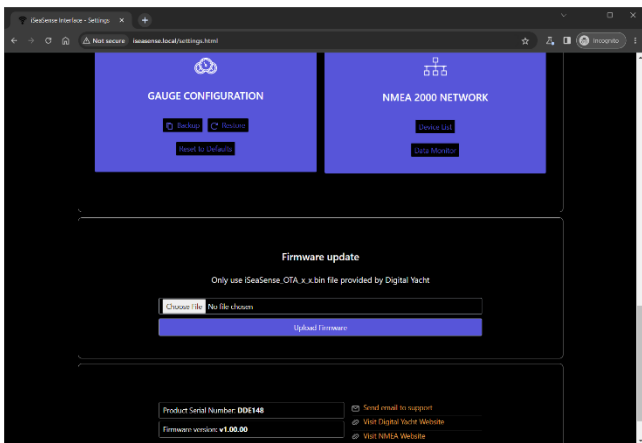

Figure 15
- NMEA 2000 Device List (Fig 15)
Clicking the “Backup” button in the Gauge Configuration panel (see Fig 15), prompts you to name and set the file location of the backup file. Should you ever need to restore the iSeaSense to this backed up configuration, simply click the “Restore” button and browse to and select the backup file.